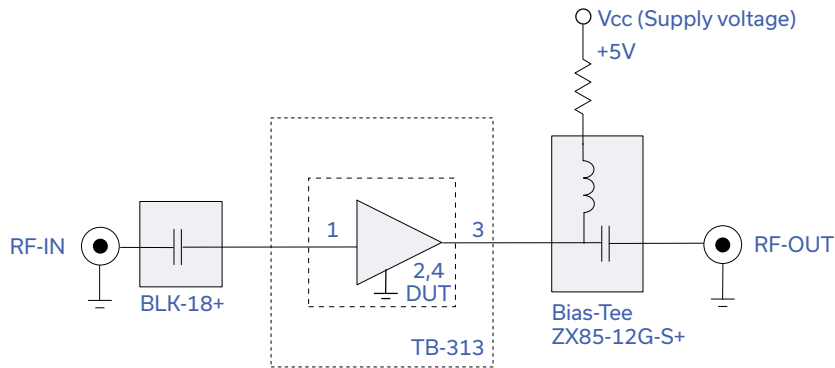

Fig 1. Block Diagram of Test Circuit used for characterization. (DUT soldered on Mini-Circuits Test Board TB-313)
(1) Measured on Mini-Circuits test board TB-313. See Characterization Test Circuit (Fig. 1)
(2) Guaranteed specification DC*-7 GHz. *Low frequency cut off determined by external coupling capacitors and RF Choke (RFC).